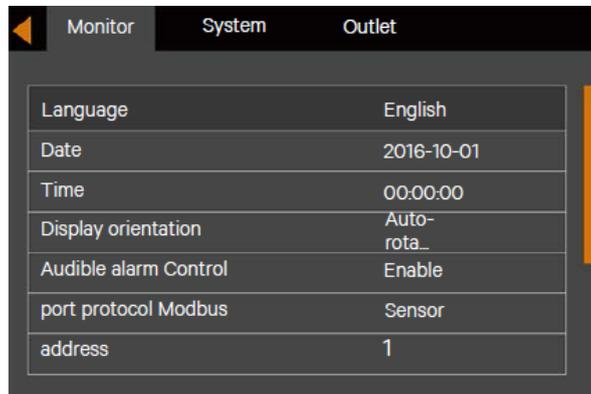

Figure 5-15 Monitor Interface
3. Press the key, and press the or key to highlight the date and time, see Figure 5-15.